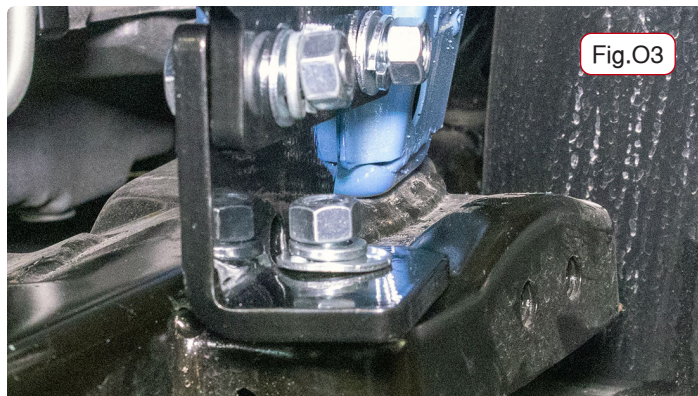

Fig.O3
16. Finally, place through the bottom of the subframe into the side-specific brace with a 3/8" x 2" bolt, 3/8" flat washer finished with a 3/8" flat washer, lock washer, and nut. Keeping things finger tight for now (Fig. O3).